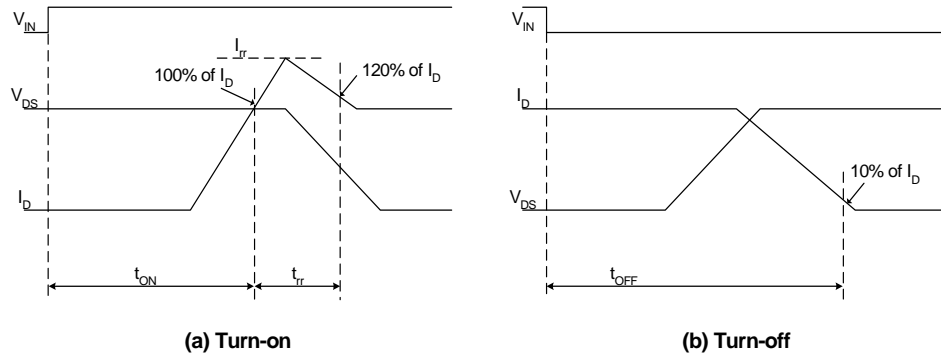
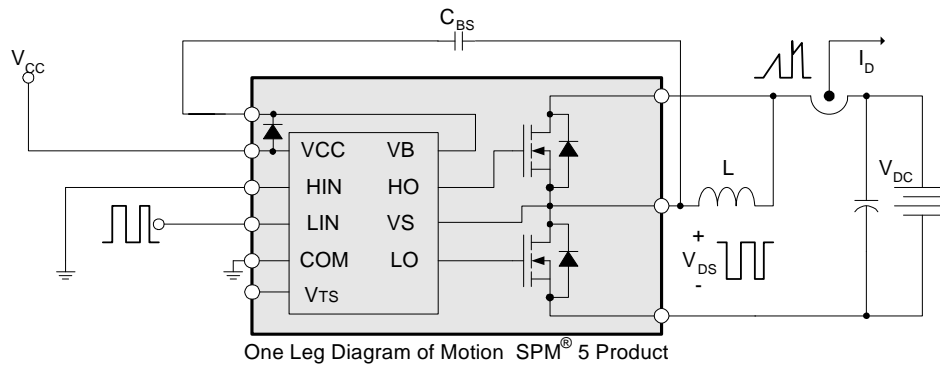

Figure 6. Switching Time Definitions
Figure 7. Switching and RBSOA (Single-Pulse) Test Circuit (Low-side)
2. t_{ON} and t_{OFF} include the propagation delay of the internal drive IC. Listed values are measured at the laboratory test condition, and they can be different according to the field applications due to the effect of different printed circuit boards and wirings. Please see Figure 6 for the switching time definition with the switching test circuit of Figure 7.
3. The peak current and voltage of each MOSFET during the switching operation should be included in the Safe Operating Area (SOA). Please see Figure 7 for the RBSOA test circuit that is same as the switching test circuit.